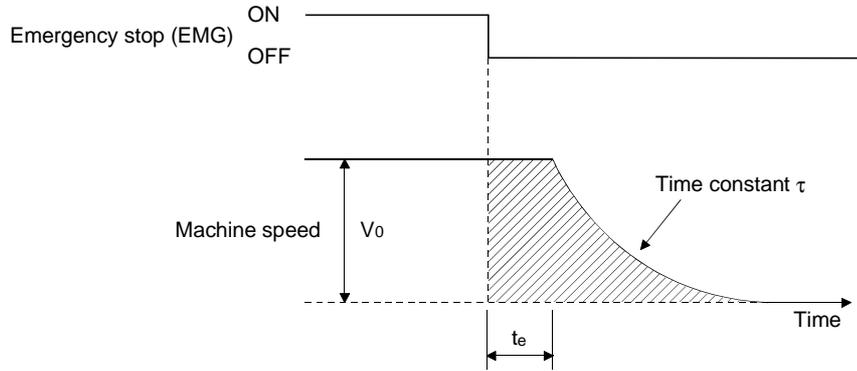
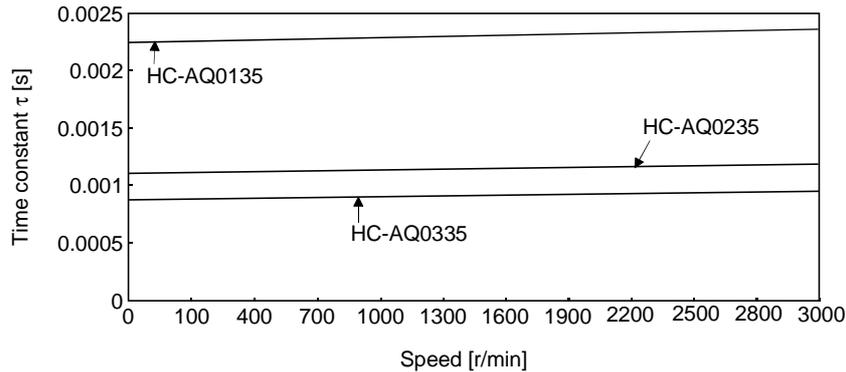

Fig. 11.2 Dynamic Brake Operation Diagram
Fig. 11.3 Dynamic Brake Time Constant
When an alarm, emergency stop or power failure occurs, the dynamic brake is operated to bring the servo motor to a sudden stop. Fig. 11.2 shows the pattern in which the servo motor comes to a stop when the dynamic brake is operated. Use Equation 11.1 to calculate an approximate coasting distance to a stop. The dynamic brake time constant τ varies with the servo motor and machine operation speeds. (Refer to Fig. 11.3.)
- τ : Brake time constant (Fig. 11.3)..... [s]
- t_e : Delay time of control section (Fig. 11.2)..... [s]